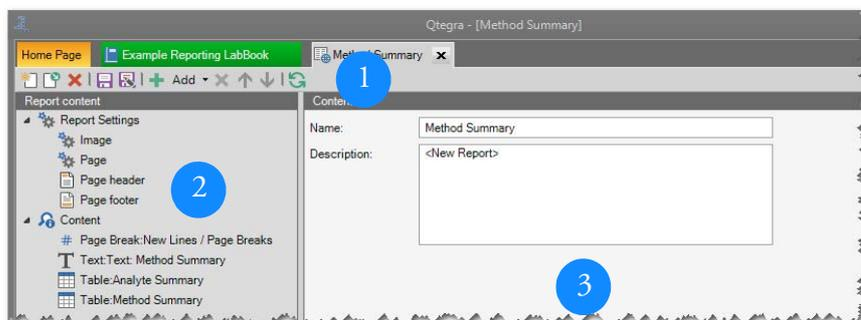

Figure 8-17. Main editor page of Qtegra Report Editor
The basic structure of the Qtegra Report Editor is shown in Figure 8-17.
- The **Toolbar** (1 in Figure 8-17) that contains the main Report editor-related functions,
- The **Report Content Area** (2 in Figure 8-17) that shows the structure of the loaded Report template:
- The **Report Area** (3 in Figure 8-17), which displays the details of the selected Content item.